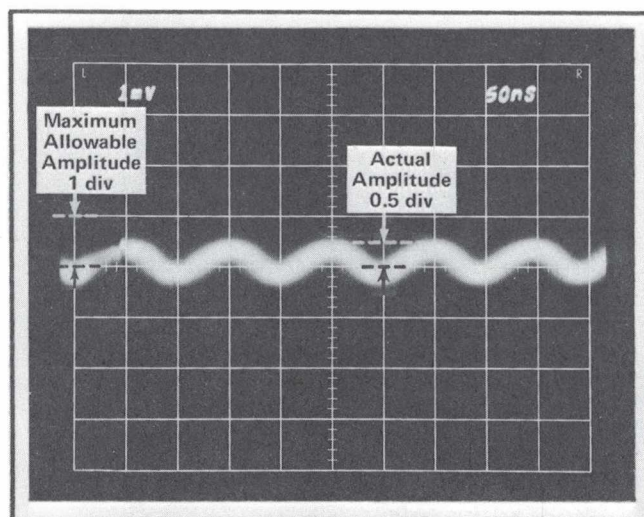

Fig. 5-15. Measuring the peak-to-peak amplitude of a common mode difference signal. Vertical deflection factor: 1 mV/div; sweep rate, 0.5 μ s/div.
f. CHECK—One division or less display amplitude. This is equivalent to a CMRR of 10,000:1 or greater. Measure the peak to peak excursion, excluding the trace thickness, as shown in Fig. 5-15.